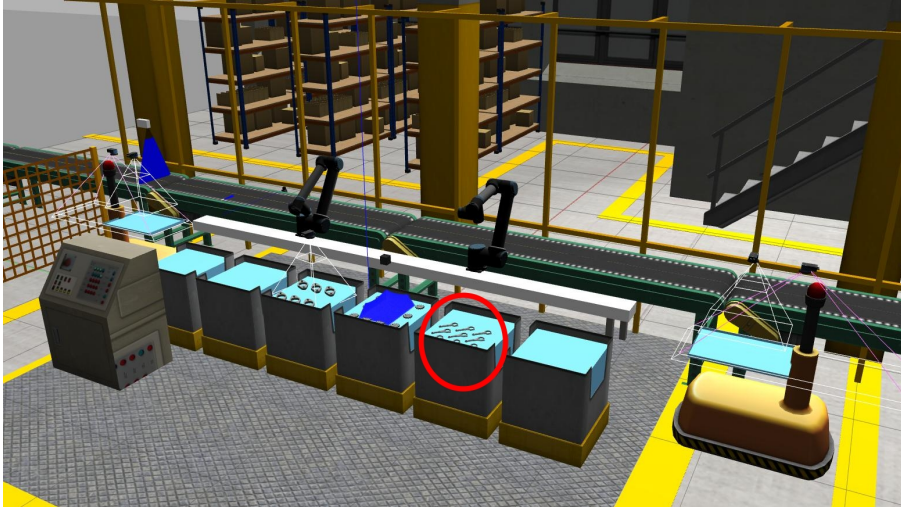

Figure 1: Gazebo environment.
- When the environment starts, you will see a bin of parts which does not have a camera above it (see figure 1).